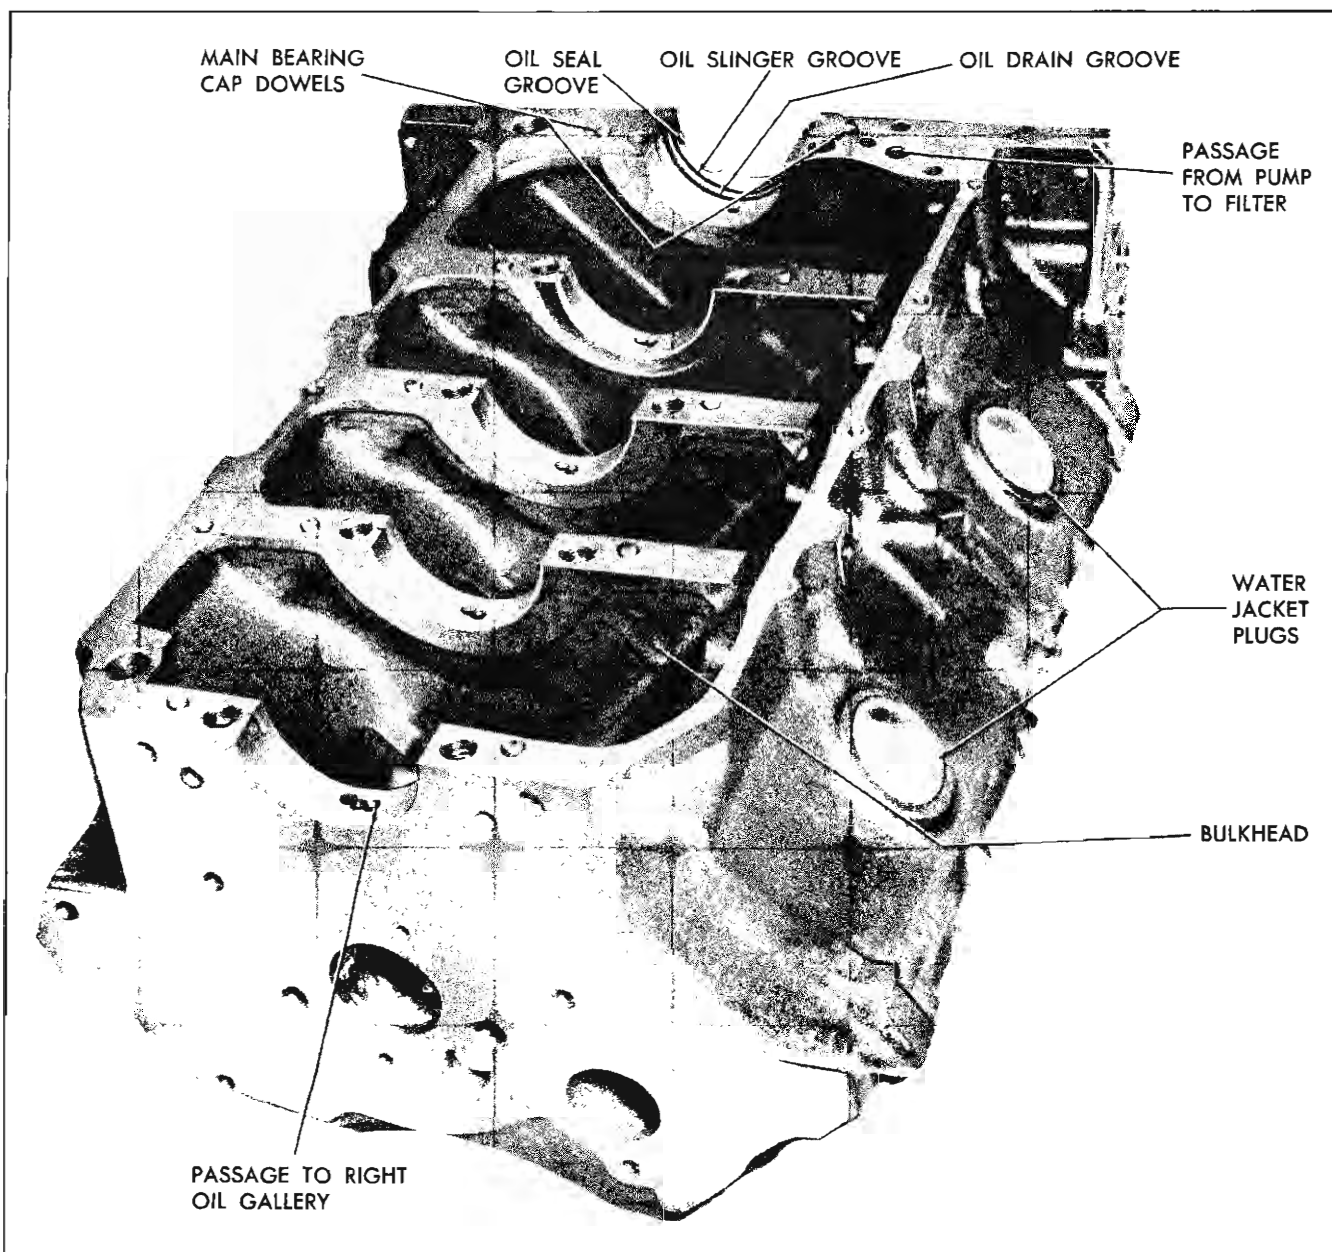

Fig. 6-71 Cylinder Block—View from Bottom—4 Cylinder Engine
- c. Visually check passage from each main bearing to corresponding camshaft bearing (Fig. 6-71 and 6-74).